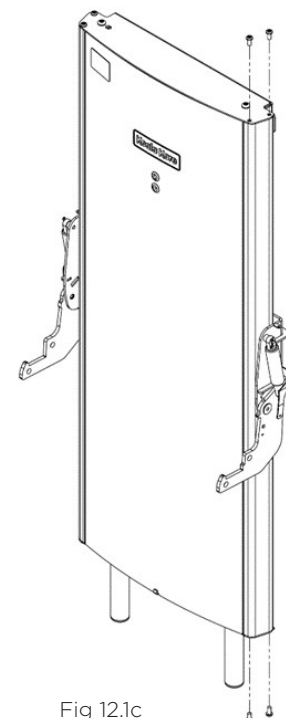

Fig 12.1c
- Start by removing the four screws which retain the aluminum beam as shown on one side only, as shown in Fig 12.1c. Two security screws on the top and two security screws on the bottom.